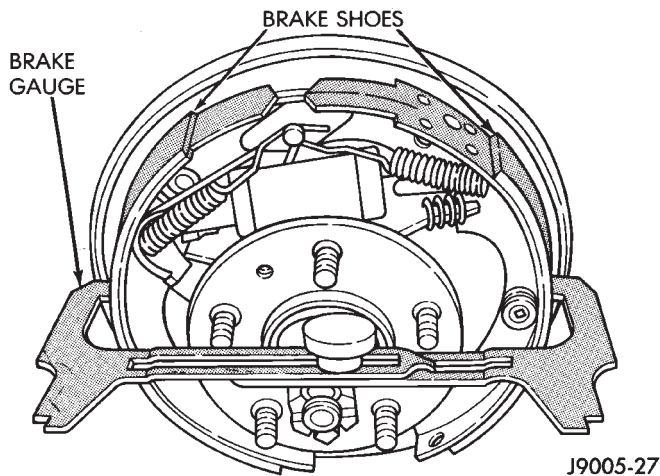

Fig. 53 Adjusting Gauge On Brake Shoes
(5) Reverse gauge and install it on brake shoes. Position gauge legs at shoe centers as shown (Fig. 53). If gauge does not fit (too loose/too tight), adjust shoes.